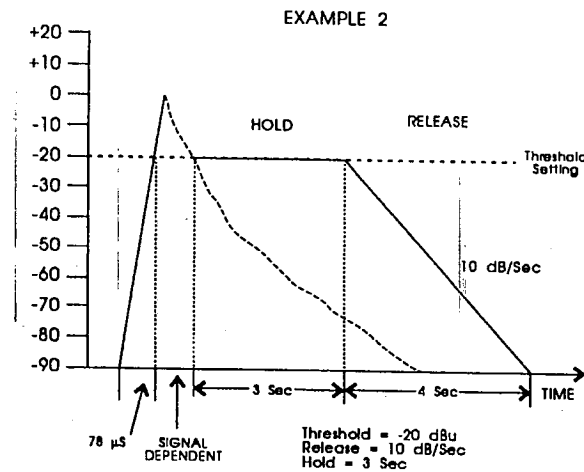

Figure 12: Operation with Cymbal or Piano
**Example 2:** With a THRESHOLD setting around -20dB, and the HOLD control set around 3 seconds, and the RELEASE control set around 10dB/S, the 363X will allow lower signals to open the gate, while the long hold and release settings will allow the gate to remain open to capture the entire envelope of the signal. These would be good settings for the piano or the crash cymbal mentioned in example 1 (see Figure 12). These settings would allow the instrument to decay naturally before the gate would close and truncate the signal.